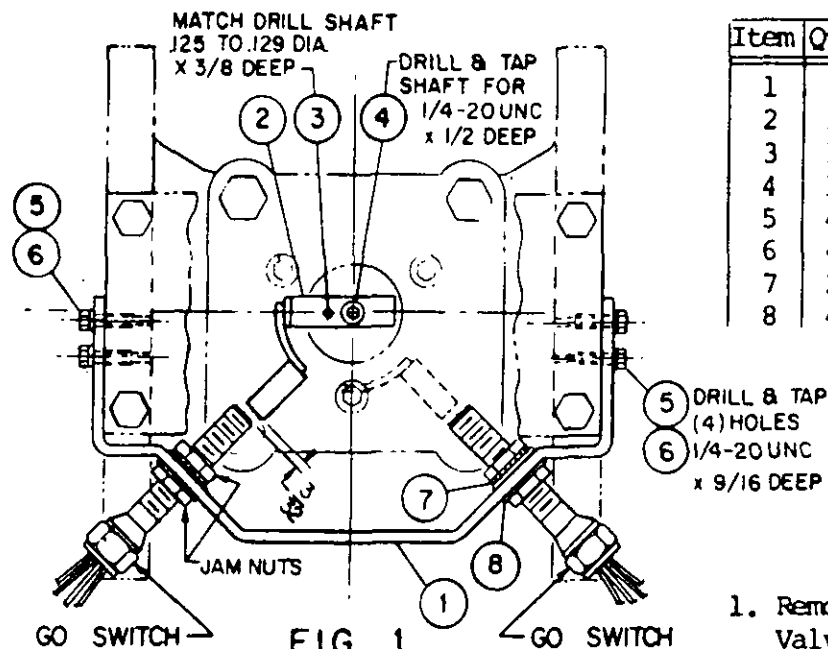

FIG. 1
4. Place Switch Activator (item 2) on shaft and secure with flat head screw (item 4). Then orient Switch Activator as shown in figure 1. Match drill shaft with hole in Switch Activator and drive rollpin (item 3) into hole to prevent rotation.
5. Fit Mounting Bracket (item 1) to sides of Actuator mounting plate support and mark location of four mounting holes, drill, and tap four 1/4-20 UNC x 9/16 dp. Then secure Mounting bracket (item 1) with items 5 & 6.
6. Insert GO Switches into slots on Mtg. Bracket (item 1) and secure with two jam nuts that come with switches and washers items 7 & 8.
7. Adjust Switches to sense Actuator (item 2) in full open and full closed positions.